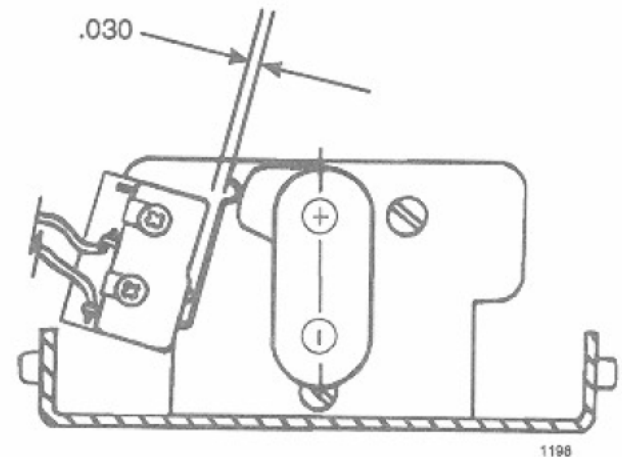

Figure 4-7. Stacker Home Switch Adjustment
Check for a gap of $1/32$ (.030 inch feeler gauge) between the stacker switch arm and the stacker switch body as shown in *figure 4-7*.
1. Loosen the two adjusting screws as shown in *figure 4-7*.